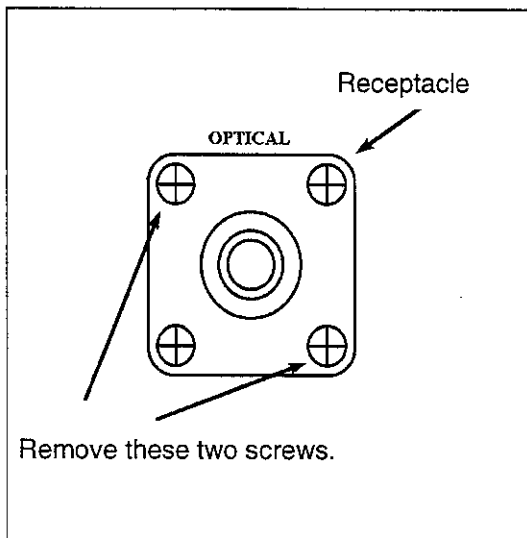

Figure 2-2 Connector Cleaning (1)
- (1) Out of the four screws fixing the optical fiber connector receptacle on the front panel, remove two screws: the upper left and lower right ones. (See Figure 2-2.)